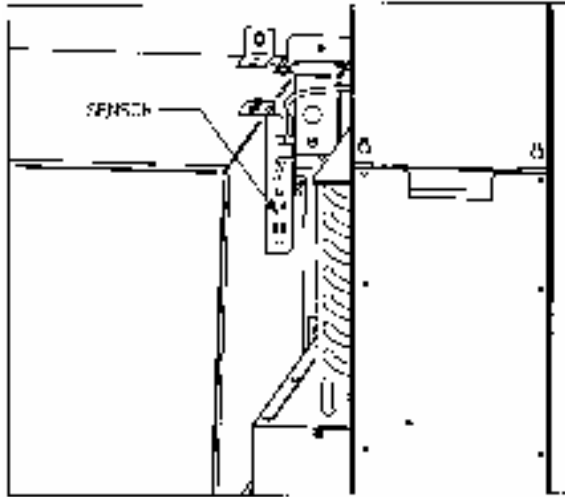

Figure 8.3 Temperature Sensor
4. The sensor is mounted to its bracket using two spring clamps (refer to Figure 8.3). To remove it, first unwrap the sensor wire from the two slots in the bracket, and then slide the sensor out of the two spring clamps.